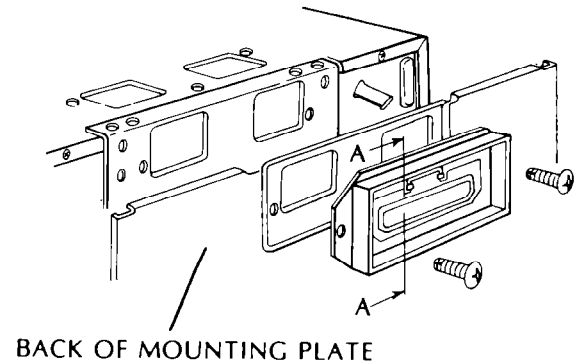

Figure 14
1. Attach Backdraft Damper assy. to the back of mounting plate with 2 tapping screws provided for OUTSIDE VENTILATION, Horizontal Exhaust (Fig. 14).